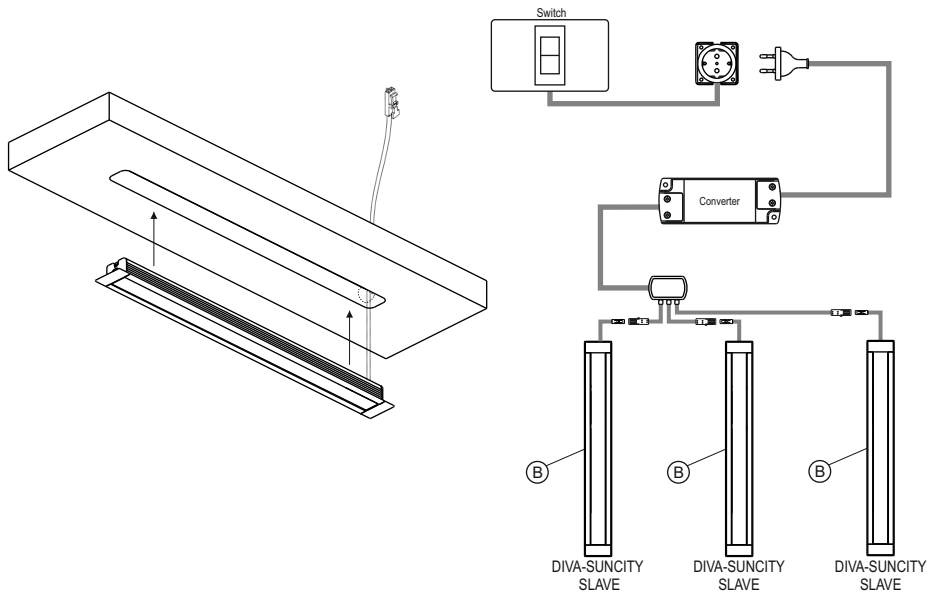

Fig.6
The **DIVA-SUNCITY SLAVE** (B) is a switch-free instrument, then it must be turned on via a remote switch, that can be placed on the **DIVA-SUNCITY TLDM-IFRM** (wired in the MASTER version) as shown in figure 4,5 or it can be assigned to a separate switch connected to the primary of the converter, or to a remote socket as shown in figure 6.